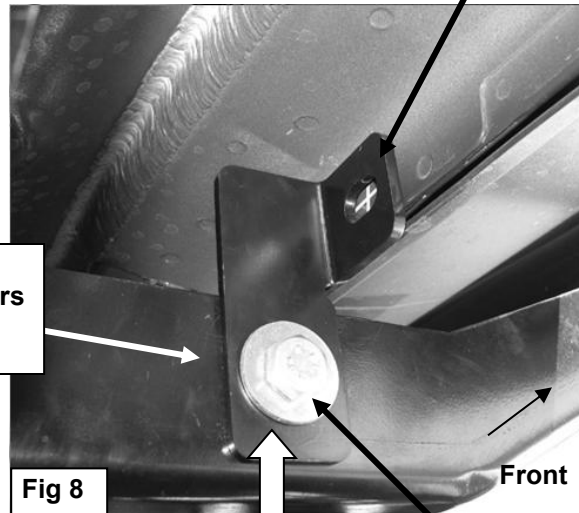

Fig 8
9. Line up the Front Support Bracket with the back of the pinch weld, **(Figure 8)**. Push the Support Bracket up as high as possible to where the pinch weld meets the floor panel. Snug but do not fully tighten hardware.
10. Check the Running Board for level. Once properly aligned and adjusted, tighten all hardware. **IMPORTANT:** If the Support Bracket is too low and close to the edge of the pinch weld, loosen the Support Bracket and front Bracket hardware. Push the Bracket and Support Bracket up a little into position against the floor panel and away from the edge of the pinch weld, **(Figure 8)**. Level and adjust the Running Board properly and tighten all hardware.
11. Use the hole in the Support Bracket as a guide to mark the drilling location on the back of the pinch weld, **(Figure 8)**. Once you have marked the location, temporarily remove the Sidebar, the front Mounting Bracket and Support Bracket. Remove the plastic clips securing the plastic rocker cover to the rocker panel.